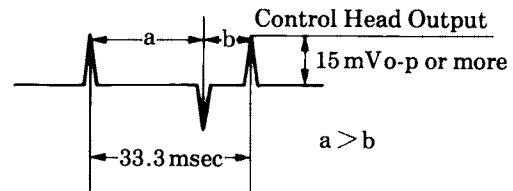

Fig. 15
2. Playback the reference tape and make sure of the waveshape of Fig. 15.